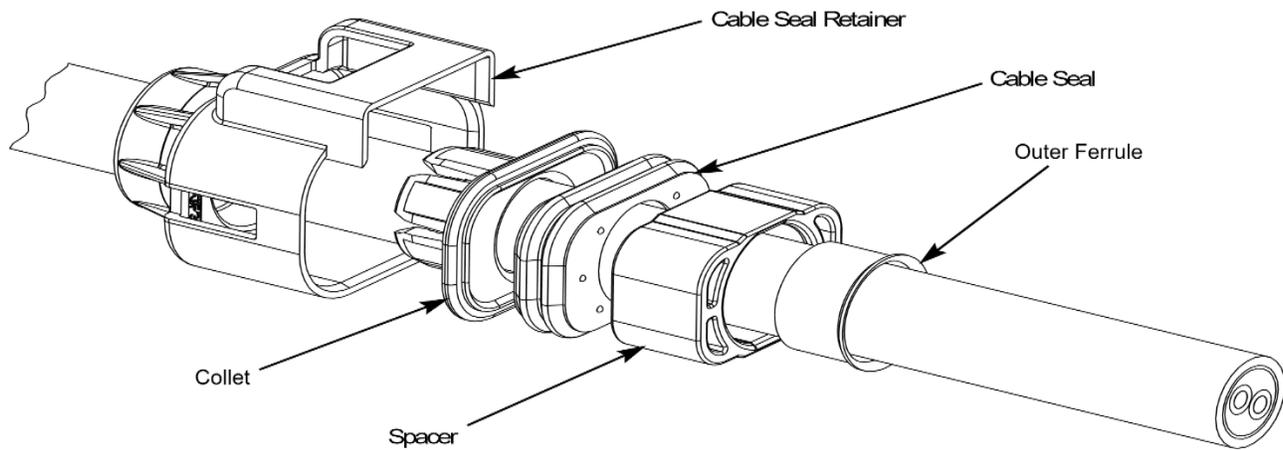

Figure 3
- 3.6.1. In the orientation shown in Figure 3, slide the cable seal retainer onto the cable first, then the collet, cable seal, spacer, then finally outer ferrule